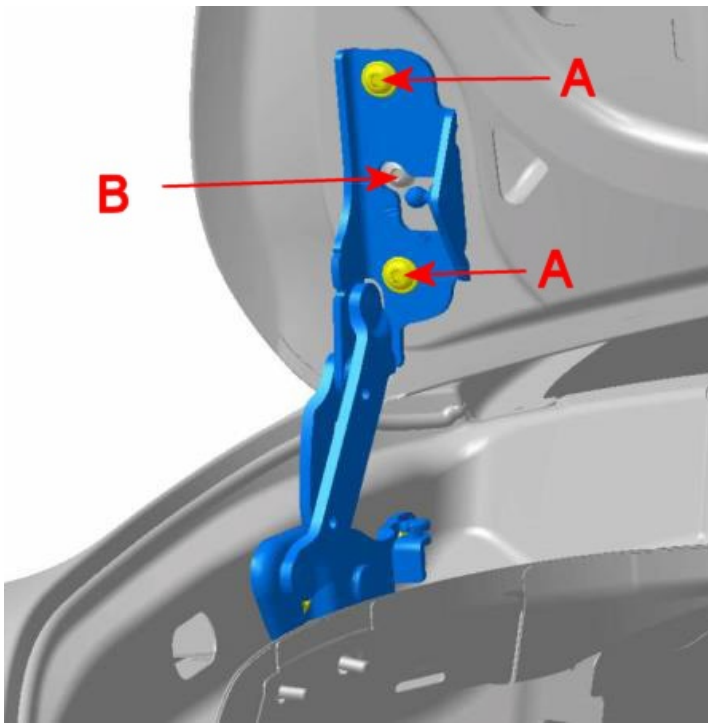

Figure 9
All Cars - Slacken the fasteners (A) securing the boot lid. (see Figure 9) **Note:** do not slacken fastener B at this time. Allow the hinges to “float” ensuring that left and right hinge are not working against each other and operate in same plane without undue resistance. Re-tighten the four fasteners (A) 20Nm \pm 2